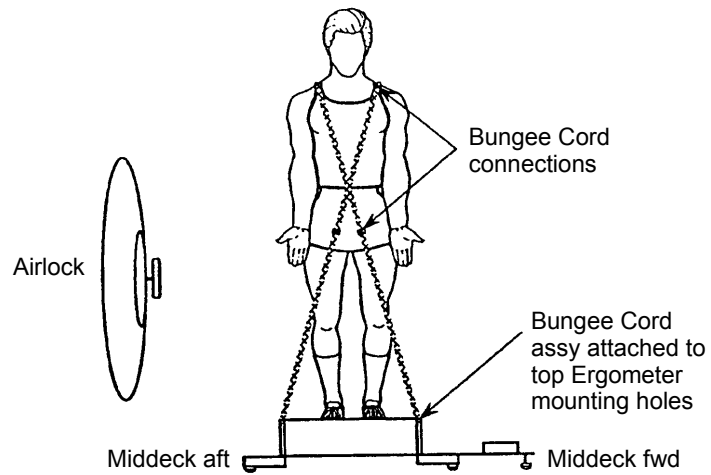

Figure 3-4.- Alternate exercise bungee attachments – front view (facing stbd).
4. Attach Bungees to opposite corners of Ergometer frame, crossing Bungees over shoulders (see figs 3-4, 3-5)